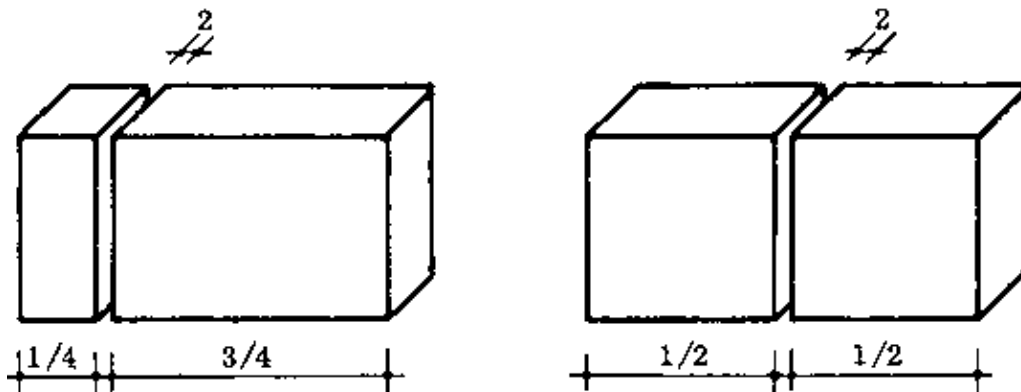

Fig. 5  $1/4 - 1/2 - 3/4$  BLOCKS
–  $3/4 - 1/2 - 1/4$  – BLOCKS: These are parts of blocks obtained by cutting a block through either the centre line or the quarter line, less half the thickness of the joint (Fig. 5). The cut is made along the width, not along the length. A special block gauge may be used for marking off the different sizes.